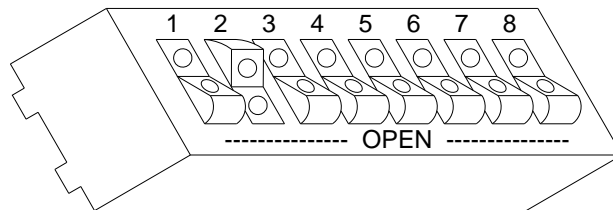

Figure 3: Dip switches on back of tachometer
- Step 4:** Set the tachometer dip switches to the appropriate cylinder setting for your signal. Refer to Table 1 and Figure 3 below.